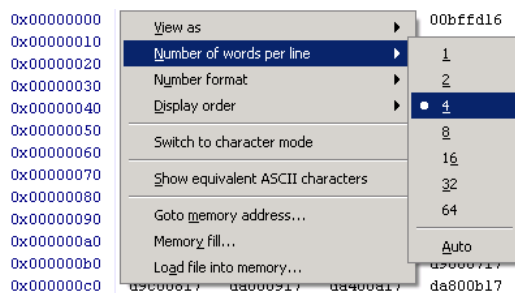

Figure 37. Setting the number of words per line.
- Number of words per line: the number of words per line can be configured to make it easier to find memory addresses, as depicted in Figure 37.